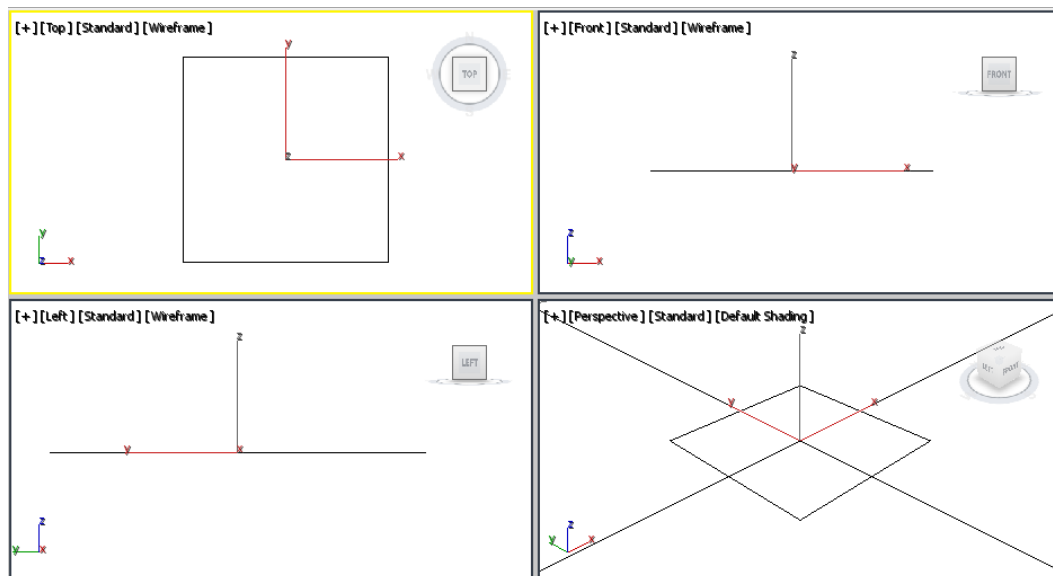

Figure 5-23 The base zoomed in all viewports
3. Enter **base** in the **Name and Color** rollout. Invoke the **Zoom Extents All** tool; *base* is zoomed in all viewports, as shown in Figure 5-23.